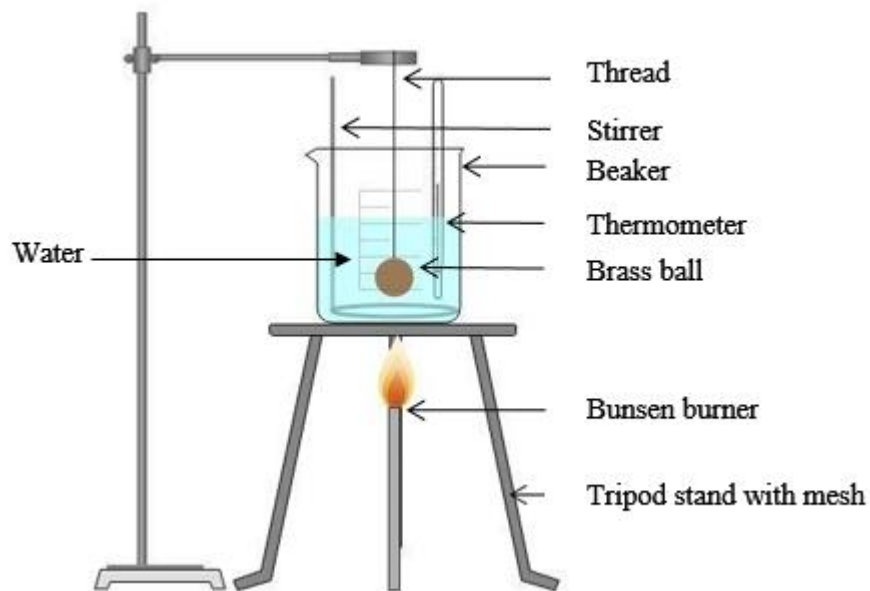

Fig. 1: Experimental Setup of heating the brass ball
d) Hang the brass ball and immerse it in a water beaker (as in Fig. 1).
- d) Hang the brass ball and immerse it in a water beaker (as in Fig. 1).